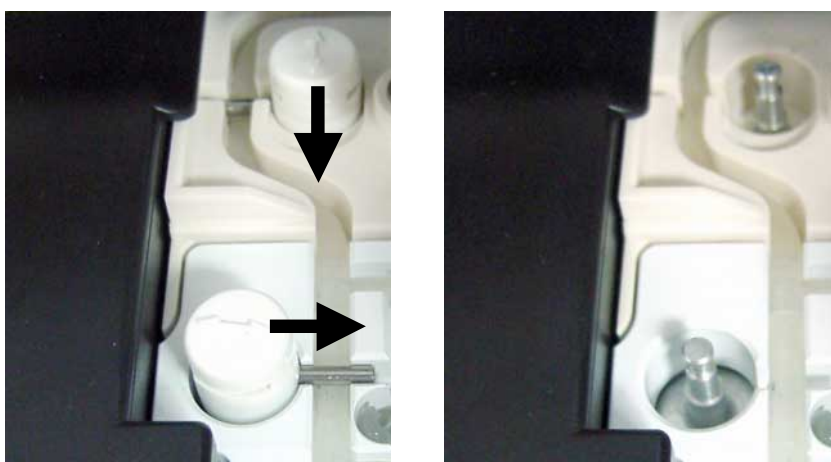

Fig. 3-16 Measuring chamber actuators
Turn the holders into the positions according to Fig. 3-16.
3. To disengage the holders, press into the direction of the arrows at Fig. 3-16.